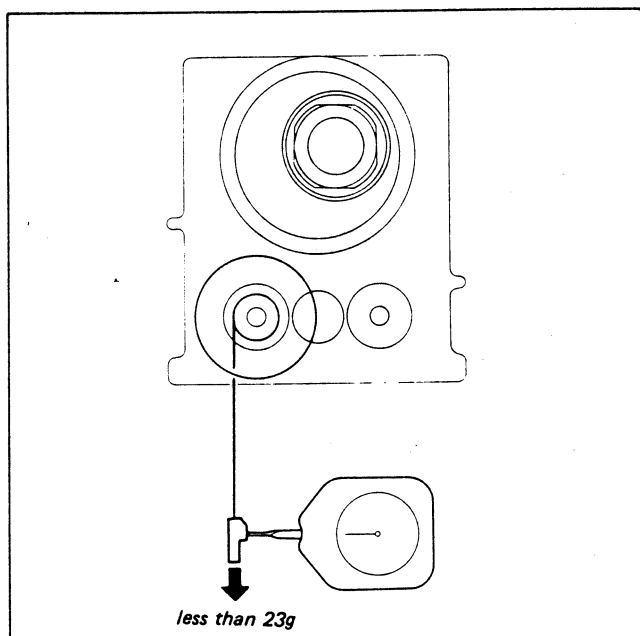

Fig. 3-60.
- 3) Pull the dial tension gauge (Ref No.J-6) in the direction of the arrow and confirm that the specifications are satisfied. (Fig. 3-60, 3-61)